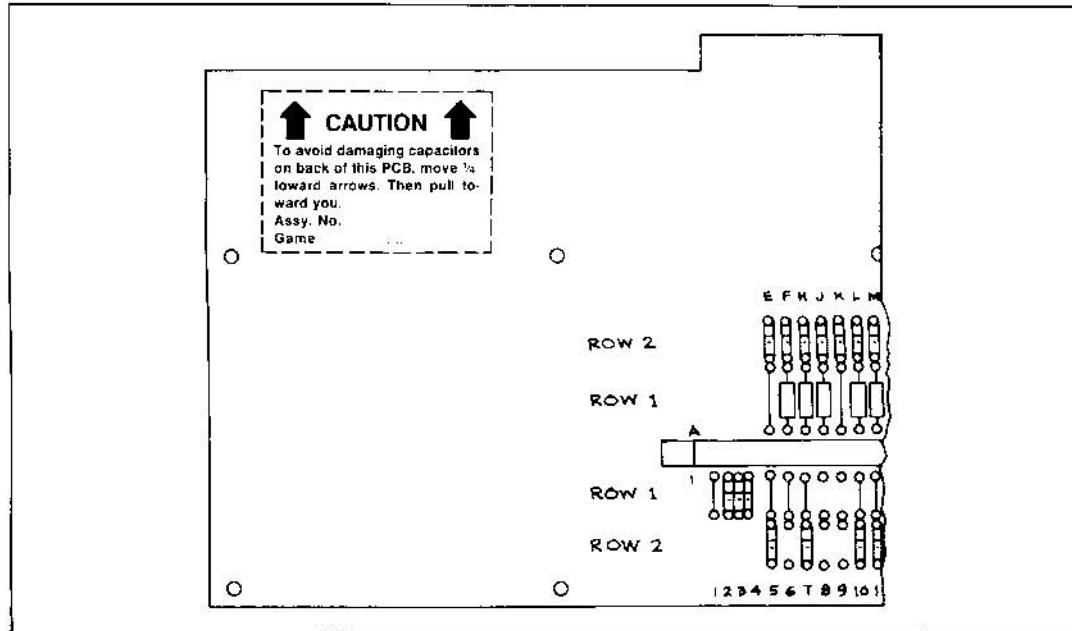

Figure 1-3 Caution Label on Game PCB
2. Locate the radio frequency (RF) shield assembly immediately inside the cabinet on the right. (It is an aluminum box with small holes.) On one end of the box is a printed circuit board with an edge connector coming from the edge of the board.
**IMPORTANT:** To prevent damage to the capacitors on the rear side of the PCB, move the board about  $\frac{1}{4}$ -inch towards the edge connector (same direction as the two arrows on the small white label). Then pull the RF board out toward yourself. Never yank the RF board straight off of the metal box. (See Figure 1-3 for caution label identification.)